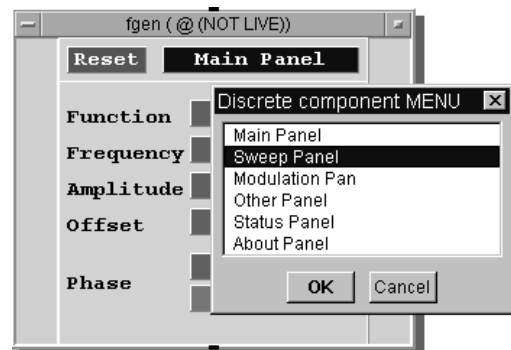

Figure 89 Sweep Panel in Discrete Component Menu
- 1 In the Panel Driver object, click **Main Panel** and select Sweep in the Discrete Component MENU presented as shown in Figure 89.